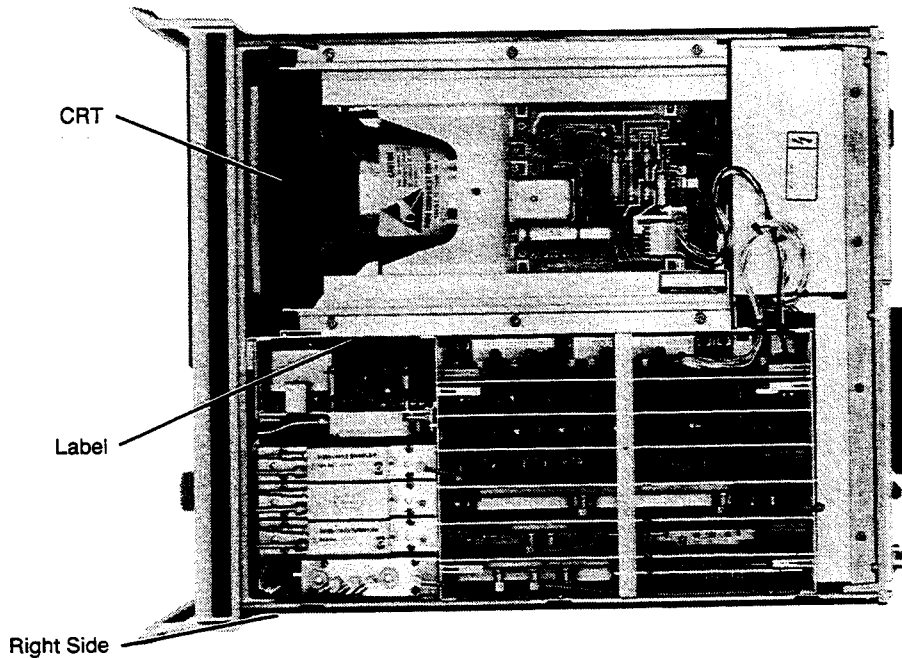

Figure 4. Location of Keyword Label (HP 8753B only)
1. Check the A9 CC jumper position. Remove the instrument top cover and note the keyword label in the source cavity (see Figure 4). The label has one keyword for each option installed in the instrument. If the instrument lacks a label, call your local HP Sales and Service office to obtain the keyword(s). Be prepared to tell HP the full serial number on the rear panel of the instrument.